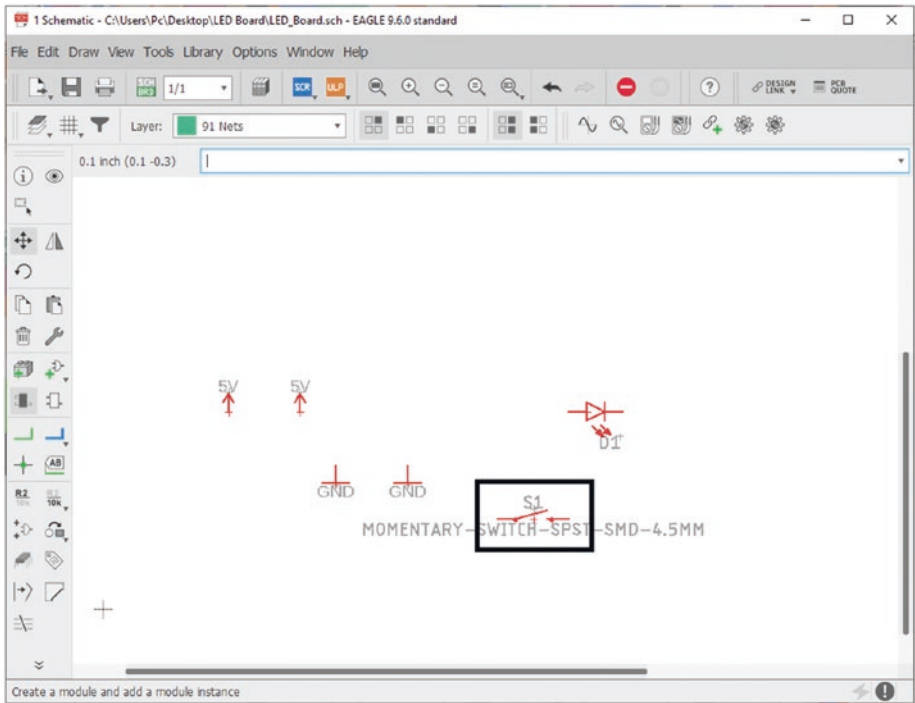

Figure 5-29. Add the Momentary button to the schematic window
- 16. Right-click three times on the schematic window to orient the switch correctly and then place the switch symbol. See Figure 5-29.